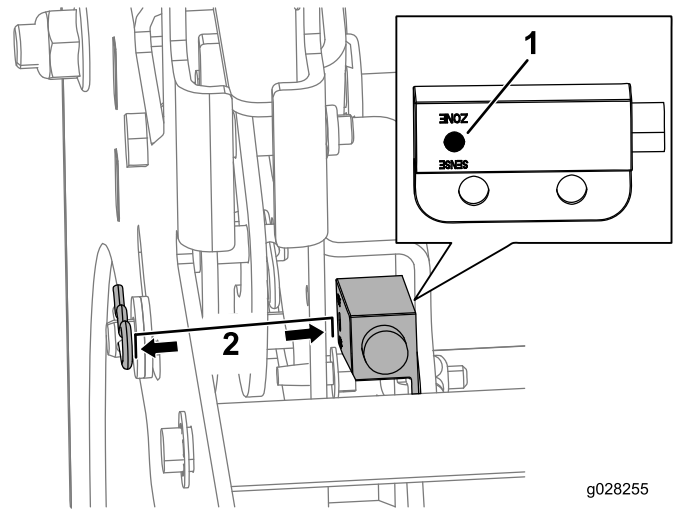

Figure 10
7. Align the target icon on the switch with the head of the clevis pin and tighten the switch (Figure 10).